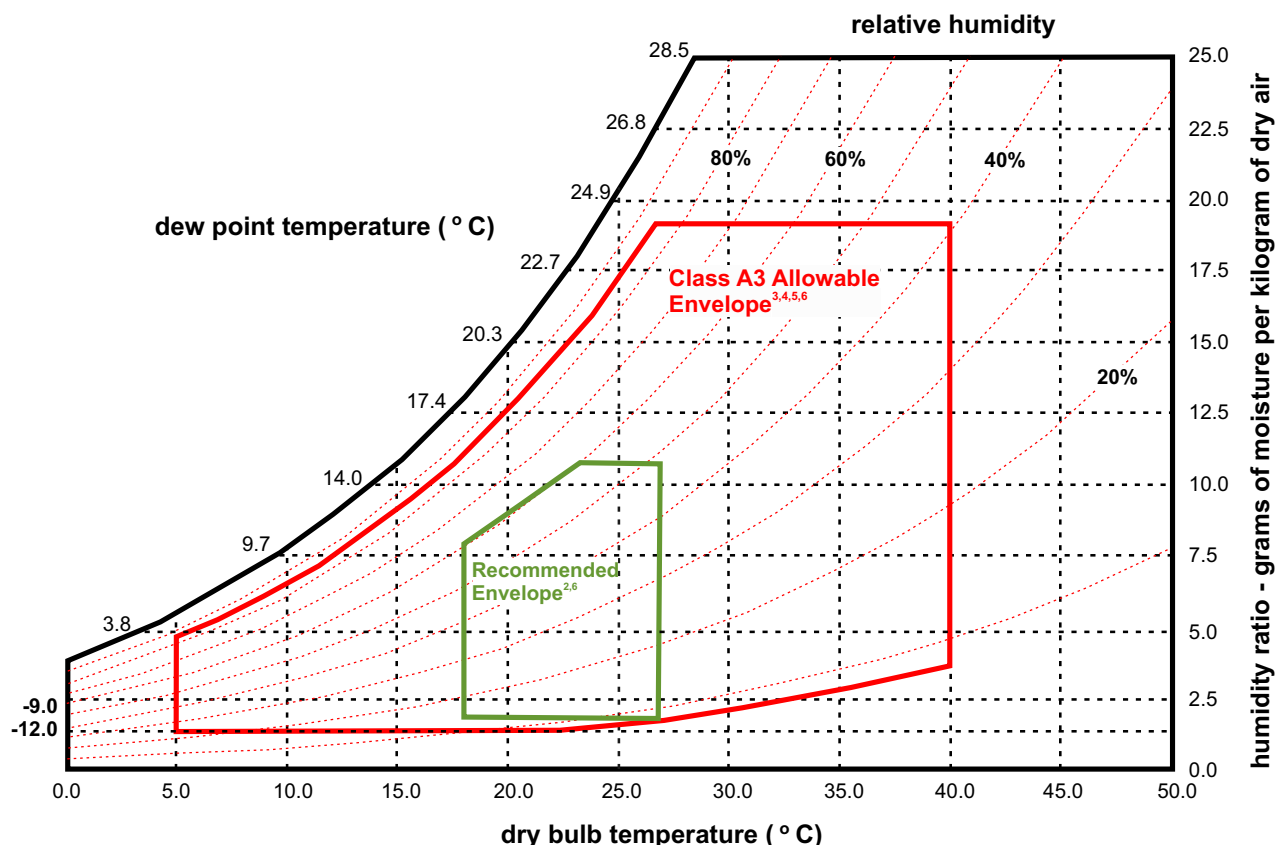

Figure 1. Environmental operating specifications - line graph format
4. The minimum humidity level is the larger absolute humidity of the -12°C (10.4°F) dew point and the 8% relative humidity. These intersect at approximately 25°C (77°F). Below this intersection the dew point (-12°C) represents the minimum moisture level, while above it, the relative humidity (8%) is the minimum. See Figure 1 on page 30 for a graphical explanation of the envelope.
Figure 1 on page 30 shows the environmental specifications in **line graph** format.